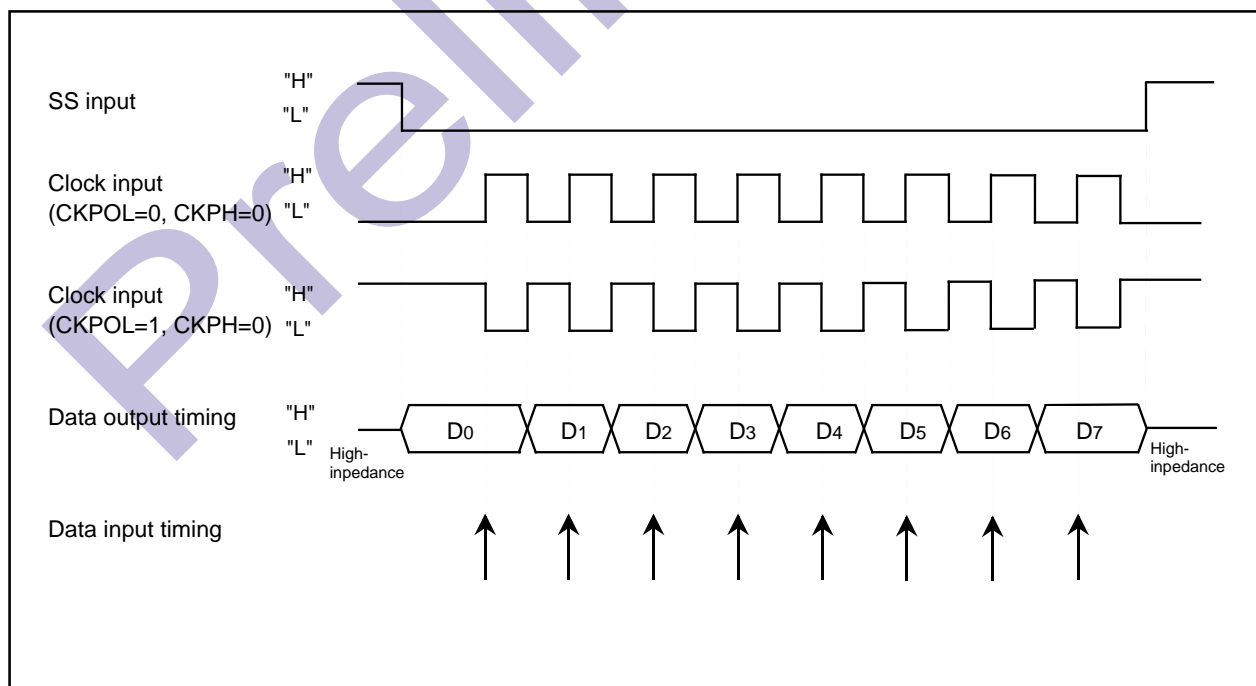

Figure 1.20.9. The transmission and reception timing (CKPH=1) in slave mode (external clock)
- With "1" for bit 1 (CKPH) of UARTi special mode register 3 (addresses 032516 and 02F516 [*i* = 3 or 4]), when an SSi input pin is H level, output data is high impedance. When an SSi input pin is L level, the first data is output. After that, serial transmission is synchronized with the clock. Figure 1.20.9 shows the timing.